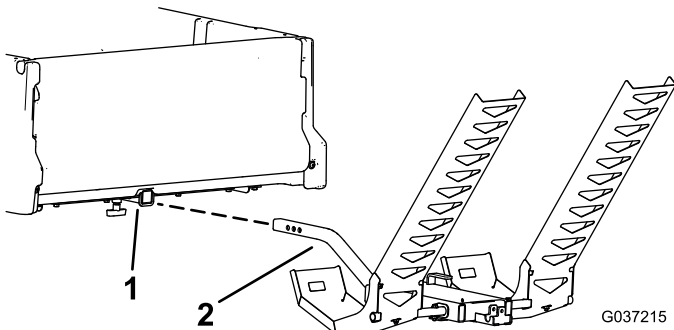

Figure 7
6. Insert the assembled spreader mount into the machine receiver tube (Figure 7).